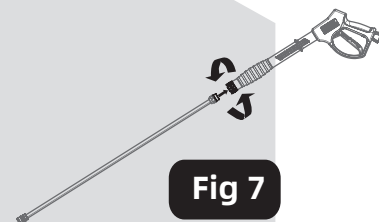

Fig 7
- a. Attach the spray wand onto the gun by rotating the coupler nut clockwise until hand tight. Do not overtighten. Figure 7